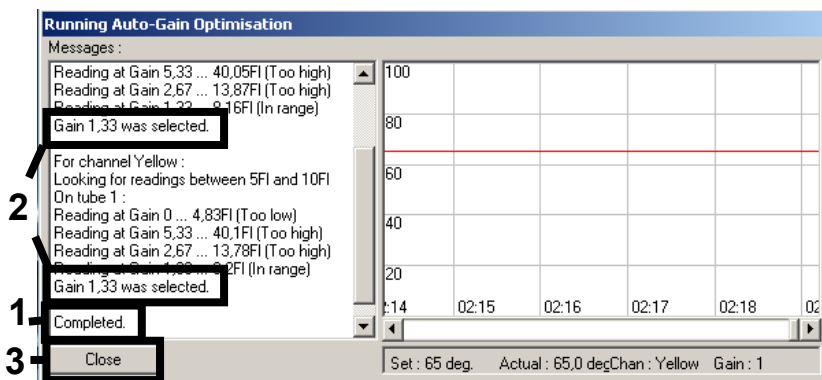

Figure 4. Gain optimization completed. Note gain values (in this case, 1.33 for both fluorescence channels).
4. Wait until **Completed** appears in the **Running Auto-Gain Optimisation** window (Figure 4). Write down the selected gain values for both channels, and then click **Close** (Figure 4).